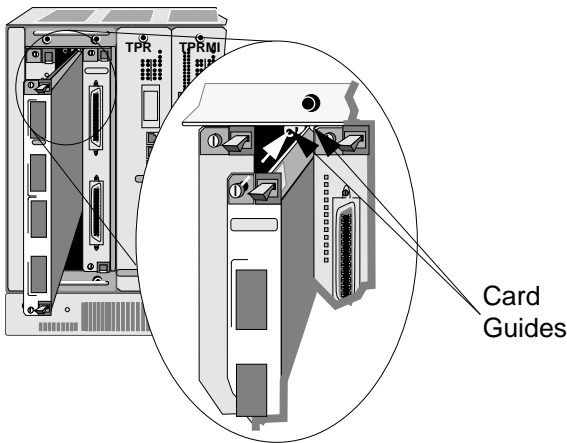

Figure 3-2. Installing the 7F06-02 Module in the 7C03 MMAC SmartSwitch
The 7F06-02 Module is installed in the 7C03 MMAC SmartSwitch using the following steps and referring to Figure 3-2.
2. Install the module by sliding it into slots as shown in Figure 3-2. Ensure that the printed circuit board (PCB) is between the card guides, slides in straight, and engages the backplane connectors properly.